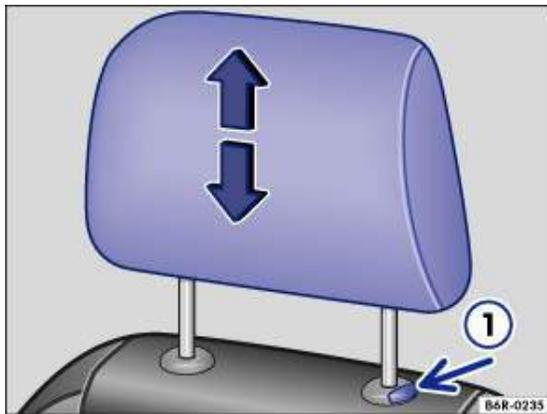
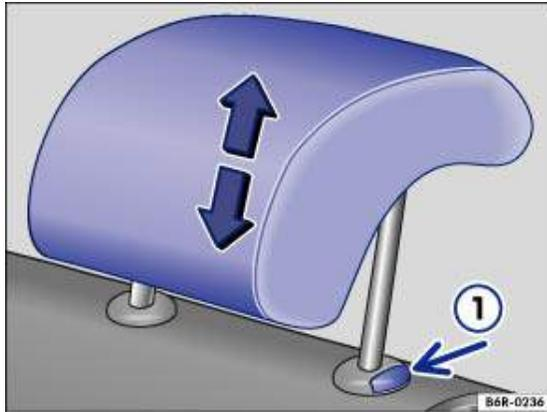

Fig. 43 Adjusting front head restraint
Fig. 44 Adjusting rear head restraint
- Push the head restraint up in the direction of the arrow or push it down with the button pressed → Fig. 43  or → Fig. 44  → .
- Pull the head restraint out while pressing the  → Fig. 43 or → Fig. 44 button.
- Press and hold the  → Fig. 43 or → Fig. 44 button and push down the head restraint.